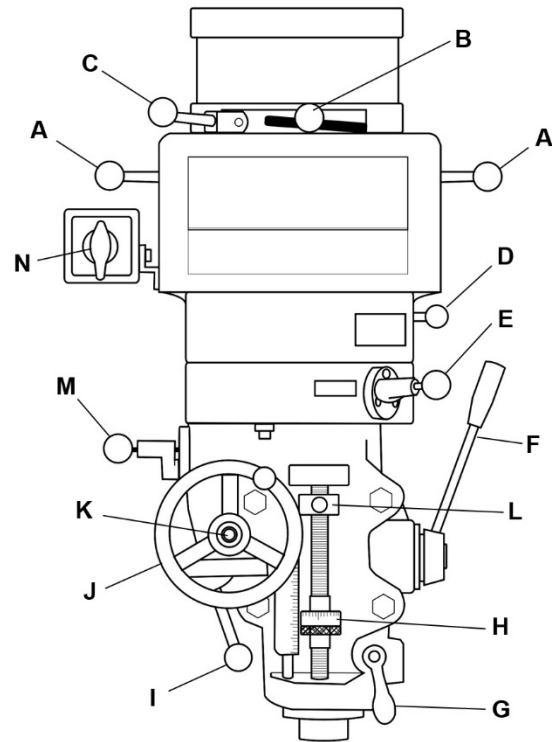
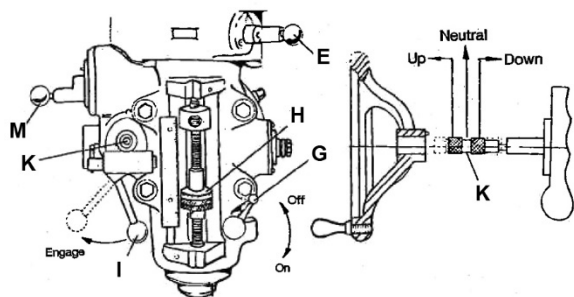

Figure 5 (repeated)
Figure 7
- J. **Manual Fine Feed Handwheel** (J, Figure 5) – Feed reversing knob (K, Figure 5) must be in neutral position. The feed trip lever (I, Figure 5) must be engaged. Note: Manual feed handwheel may be removed when not in use.
- K. **Feed Reversing Knob** (K, Figure 5) – located in center of manual feed handwheel. Position of knob depends upon direction of spindle rotation. If boring with right hand cutting tools, pull knob towards operator until clutch engages. Neutral position is between forward and reverse positions (see Figure 7).
- L. **Quill Stop** (L, Figure 5) – Disengages automatic feed in either direction, as well as the setting point for working to a given depth during manual feeds.
- M. **Quill Feed Rate Selector** (M, Figure 5) – Pull knob out and locate handle over choice of three feed rates: 0.0015”, 0.003”, 0.006” downfeeds per revolution of spindle. Feed is more readily engaged when spindle is turning.
- N. **Reversing Switch** (N, Figure 5) – Turns spindle on and off, and changes rotation direction.
Refer to Figure 7:
1. Disengage automatic feed by pulling out knob (E, Figure 7) and moving lever to the right hole.
2. Position feed reversing knob (K) in the center at neutral position.
3. Engage feed trip lever (I) by pulling away from head assembly.